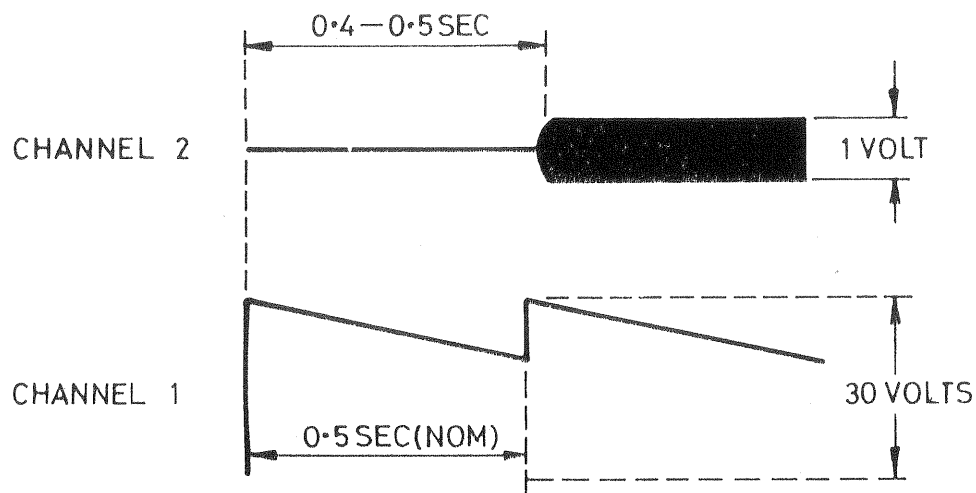

FIG 16 - CRO WAVEFORMS - GATE SWITCHING
77. Switch the Pulse Generator switch (SWB) to ON and the Channel-Mode switch to 'channel' and observe the display on the CRO. It should be as in Fig 16.